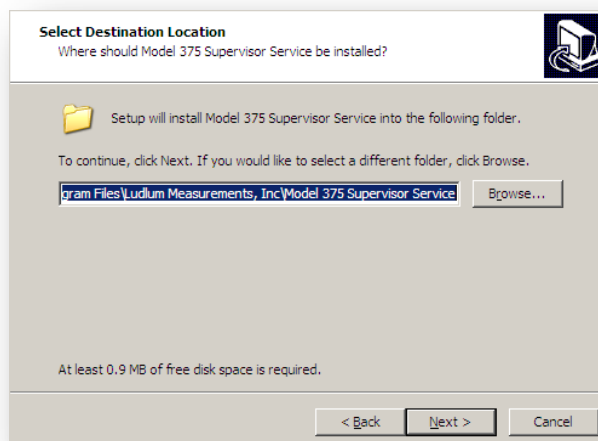

Figure 58 – Model 375 Web Page and Supervisor Service Installation (Destination Location)
7. If there are no other instances of SQL Server, accept the defaults and click **Next**. If there are one or more installed instances, check the name of this instance to an appropriate value. When finished configuring the instance, click **Next**. See Figure 58.